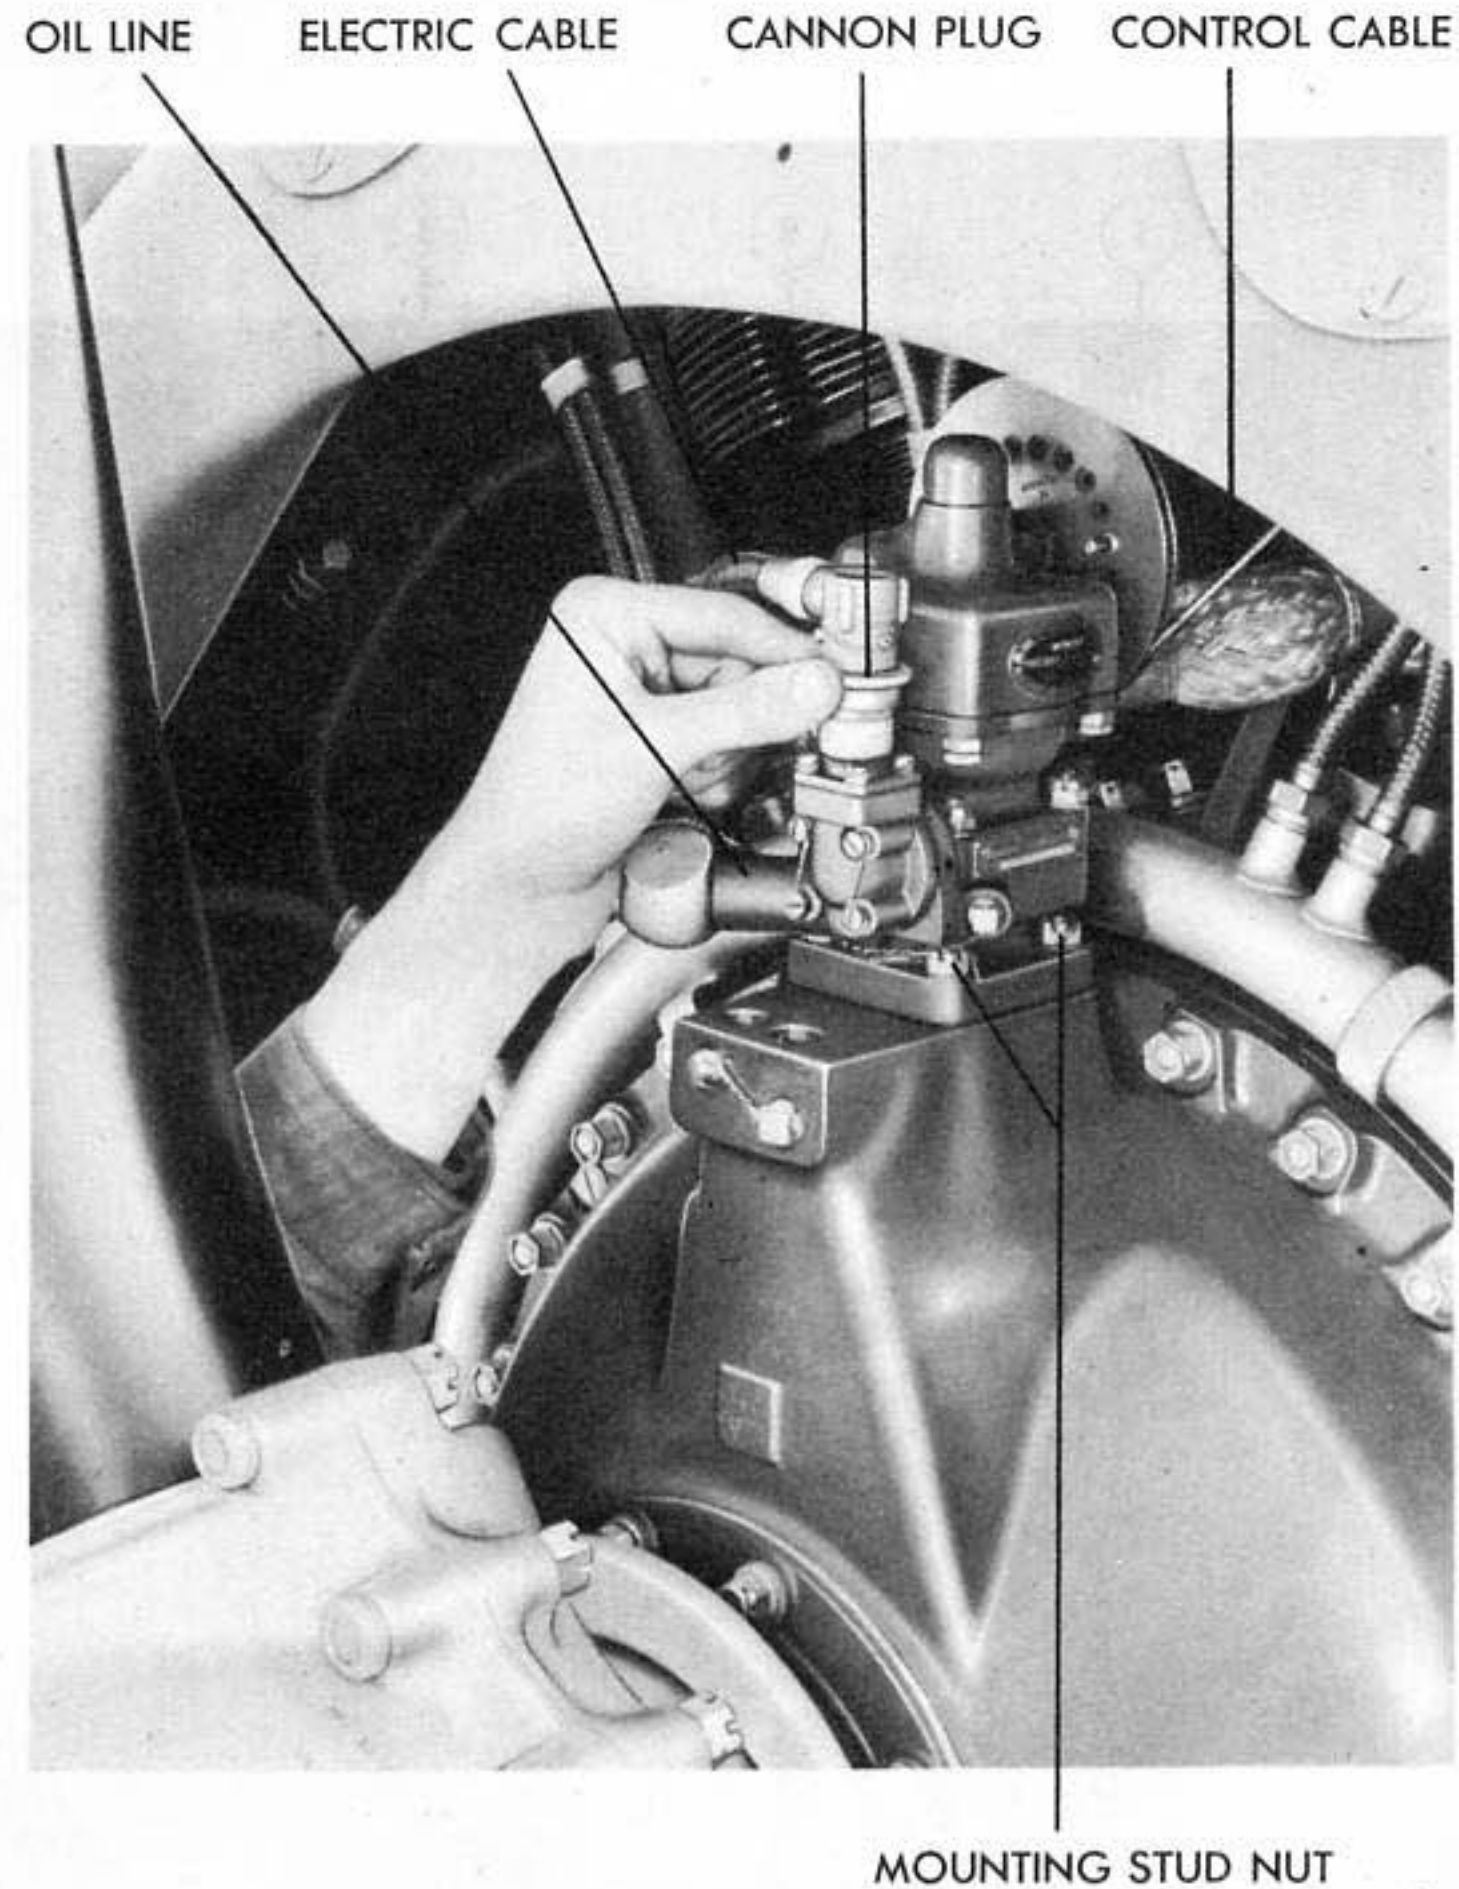

Figure 117 - REMOVING PROPELLER GOVERNOR
(2) REMOVAL OF PROPELLER GOVERNOR. (See figure 117.)